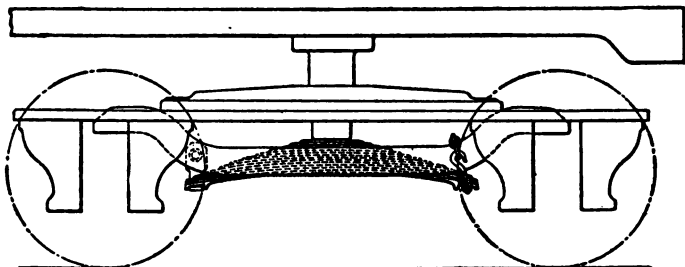

FIG. 43.—METHOD OF CHAINING FOUR-WHEELED TRUCK WITH BROKEN SPRING HANGER.
A. The broken part can usually be replaced by a chain. The bolster or frame should be jacked up above its normal position and the spring chained fast, as shown in Fig. 43. The imposition of the load and the slipping of the chain will usually let it come back to its proper place. The engine should be run slowly and carefully.